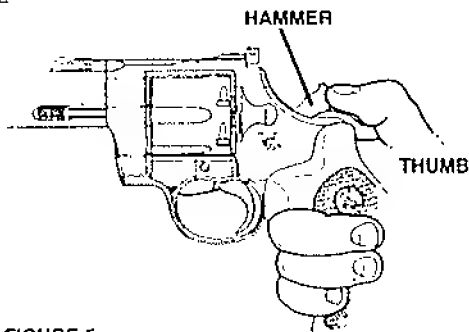

FIGURE 5—
3. (S) 1. *To fire single action:* Grasp revolver by its grip, keep fingers away from trigger and draw hammer fully back (about an inch) to cocked position where it will be held to the rear (See Figure 5). Remove thumb from hammer spur.